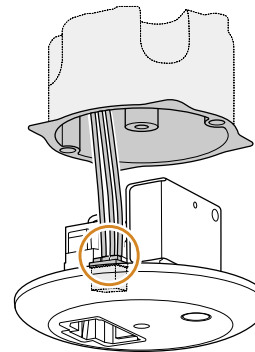

Figure 4
- 5 Connect the power supply to the terminal block provided, see **figure 4**.